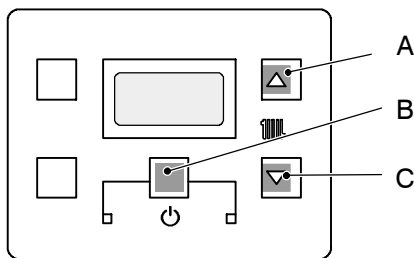
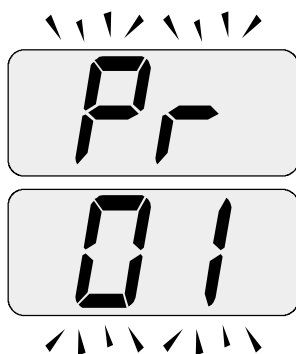
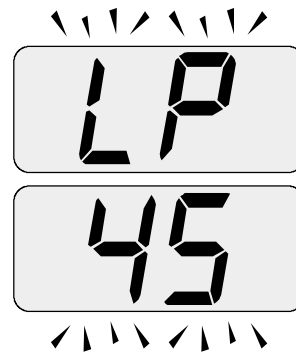

Fig. 8.5
Fig. 8.6
Fig. 8.7
- 15 To enter in the parameters setting mode press contemporary the 3 keys (A – B – C Fig. 8.5) for 10 second until the display shows Fig. 8.6
- 16 Press keys A and C (Fig. 8.5) at the same time until the display shows the letters **LP** that alternate with the heating water temperature value (e.g. **45**), indicating the activation of the "chimney sweep function" at minimum output (Fig. 8.7).
- 24 Press keys A – B – C (Fig. 8.5) at the same time again to exit the "chimney sweep mode" and return to the previously set boiler status (Fig. 8.10)